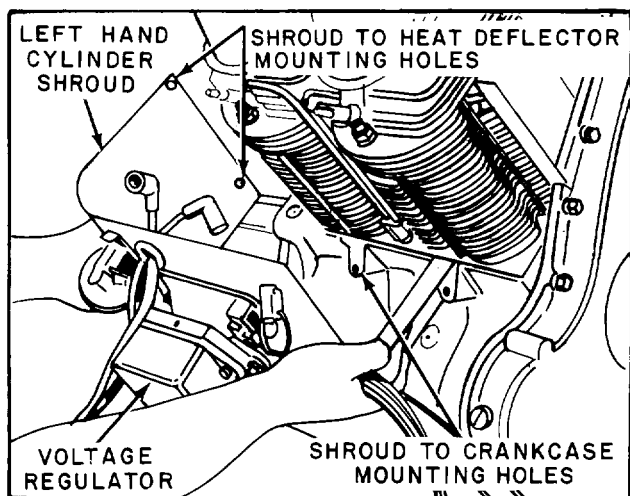

Fig. B-34
**CYLINDER SHROUDING (Fig. B-34)**
Remove ignition coil and generator adjusting strap from left hand side of engine. Disconnect No. 1 and No. 3 wires at spark plugs and remove spark plug wire clamps at top of governor housing. Take out the 2 capscrews which attach the cylinder shroud to the heat deflector at the take-off end of the engine and the 2 screws mounting the shroud to the crankcase. The left hand cylinder shroud with voltage regulator and spark plug wires attached can be removed as shown in Fig. B-34. Right hand cylinder shroud is removed in like manner.